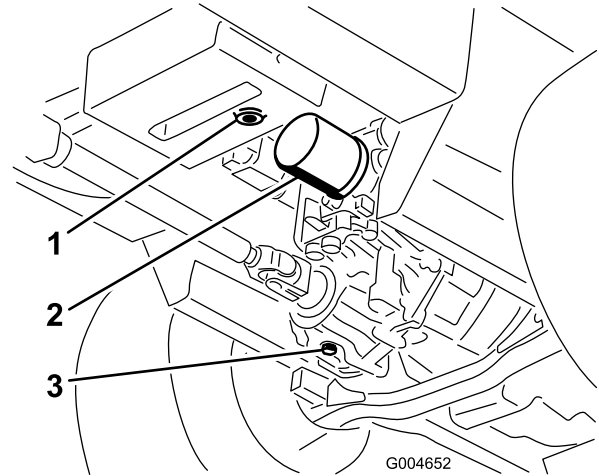

Figure 47
3. Place a large pan under the hydraulic reservoir and transmission case and remove the plugs, draining all of the hydraulic fluid (Figure 47).
4. Clean the area around the hydraulic fluid filter and remove the filter (Figure 47).